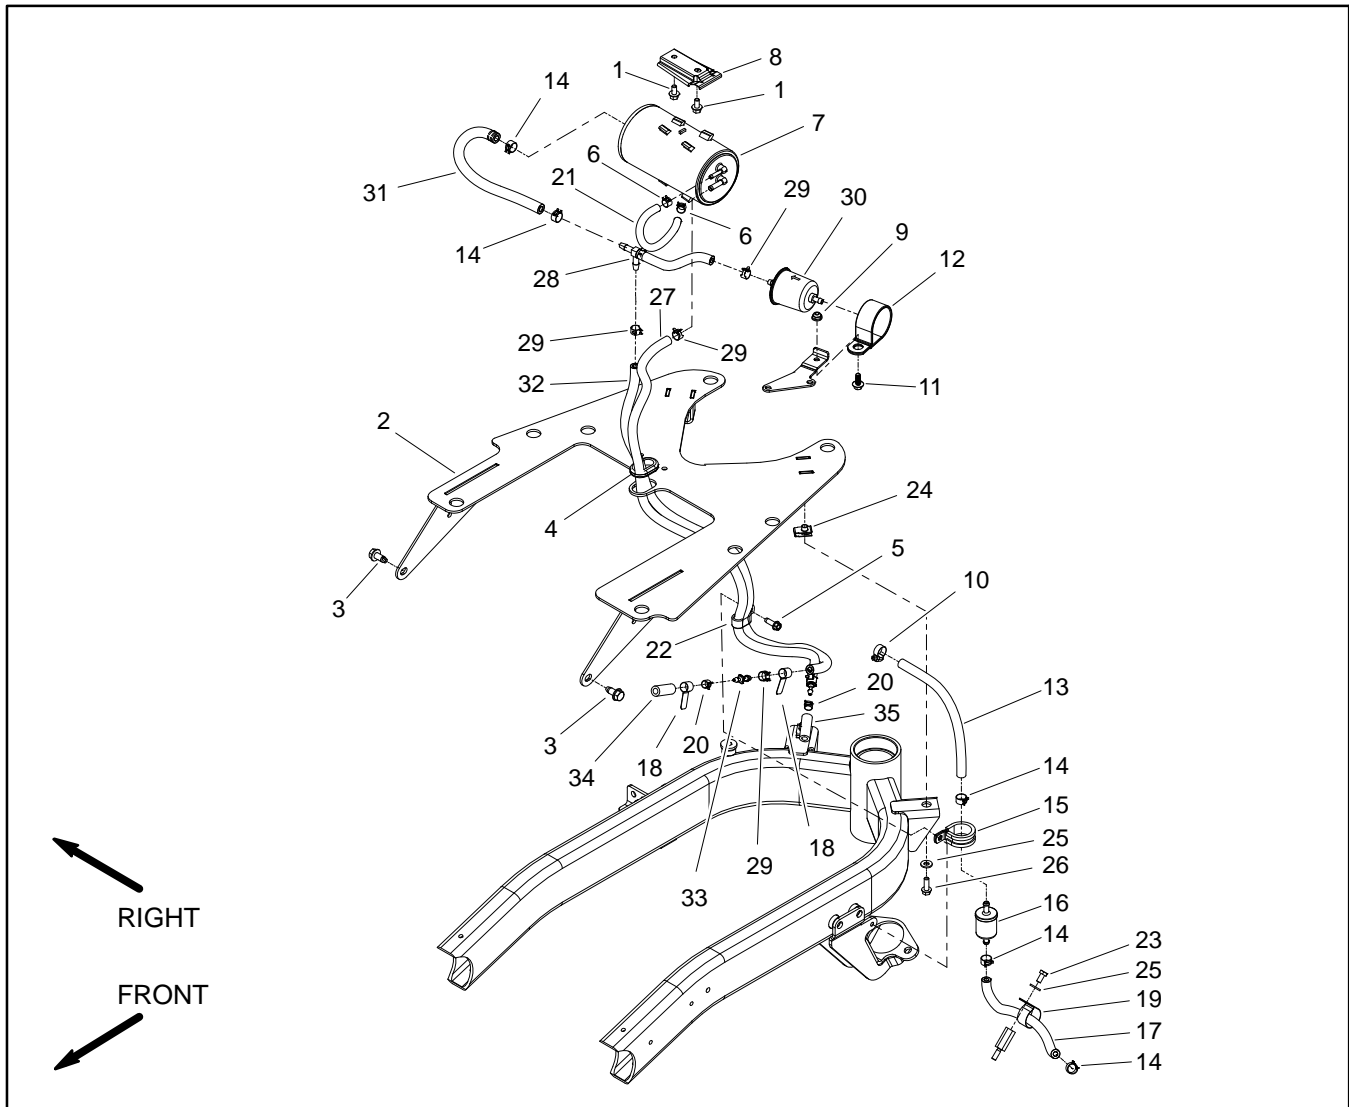

Figure 5
Removal (Fig. 5)
4. Remove components as needed using Figure 5 as a guide.
A. If either purge hose assembly (item 27) or tee hose assembly (item 28) is to be removed, label ends of hose for assembly purposes. Both of these assemblies include a check valve so direction of installation is important for correct operation of the evaporative control system. The check valve is not available as a separate part so hose assembly replacement is necessary if the check valve or hose is faulty. To ensure proper operation of check valves, do not attempt to remove them from the hose assembly.
Installation (Fig. 5)
1. Install all removed components using Figure 5 as a guide.
A. If either purge hose assembly (item 27) or tee hose assembly (item 28) was removed, make sure that installation is correct.